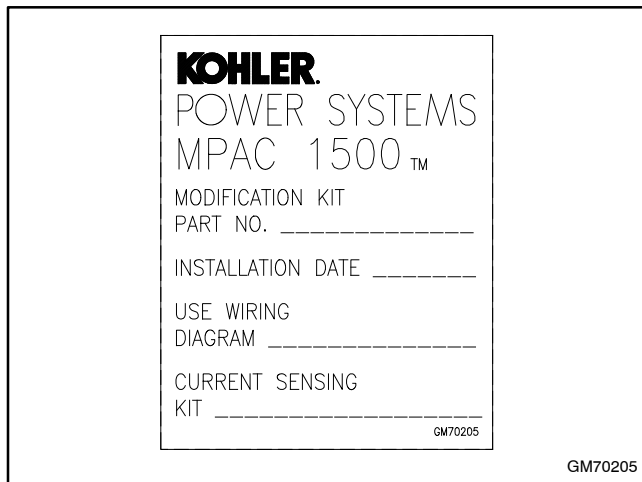

Figure 55 Decal GM70205
47. Record the required information on decal GM70205 (see Figure 55). See Figure 6 or the Parts Lists for the current sensing kit number. See Figure 58 for the wiring diagram number.